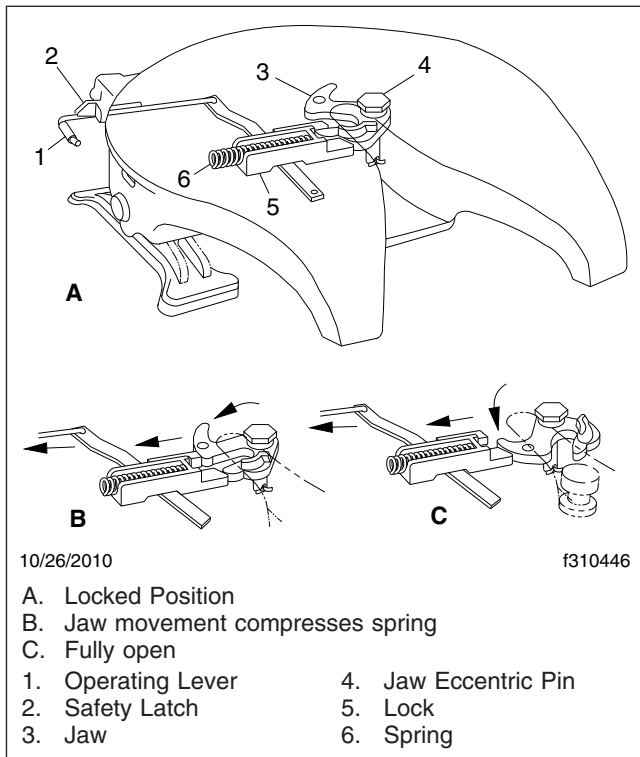

Fig. 10.10, ASF Simplex Series Kingpin Locking Mechanism Operation
The Simplex Series fifth wheel lock mechanism (**Fig. 10.10**) consists of a rotating jaw and a spring-actuated lock that grips the trailer kingpin. The jaw rotates on an eccentric pin during coupling and uncoupling operations. The spring-actuated lock holds the jaw in the locked position once kingpin lockup has occurred.
4. Position the tractor so that the center of the fifth wheel is in line with the trailer kingpin. The kingpin should be in a position to enter the throat of the locking mechanism. See Fig. 10.10. Adjust the trailer landing gear so that the lower front trailer edge contacts the top surface of the tilted fifth wheel plate, approximately 8 inches (20 cm) before the fifth wheel center.